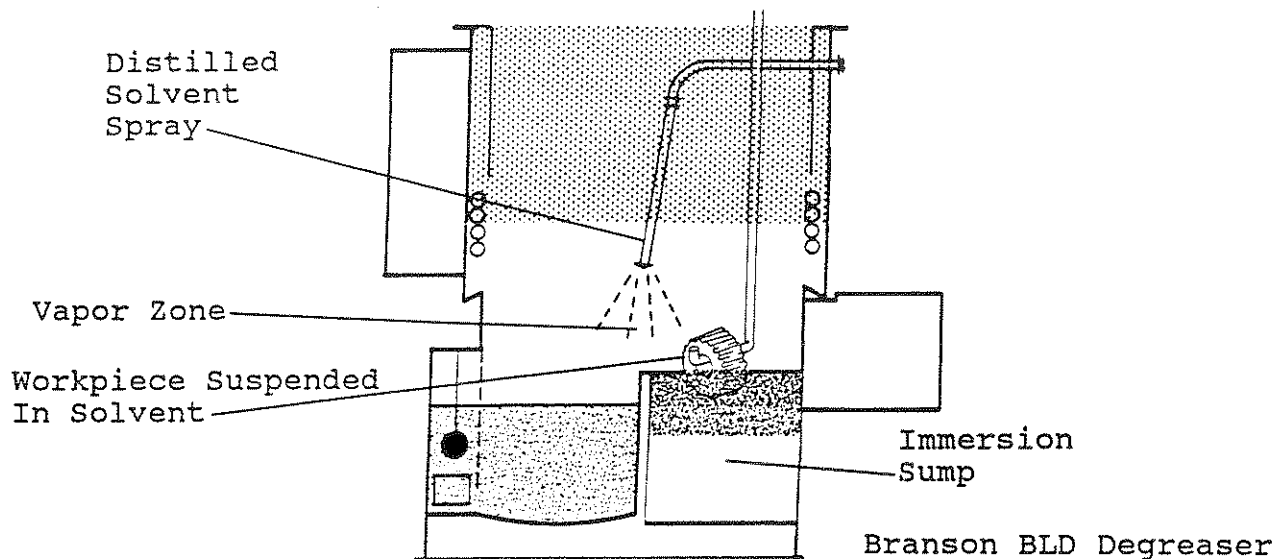

Figure 2-2: Immersing Workpiece in Warm Solvent
- . The soiled workpiece can be submerged in a warm solvent immersion sump, as is done in the Branson BLD immersion-vapor-spray degreasers (Figure 2-2).